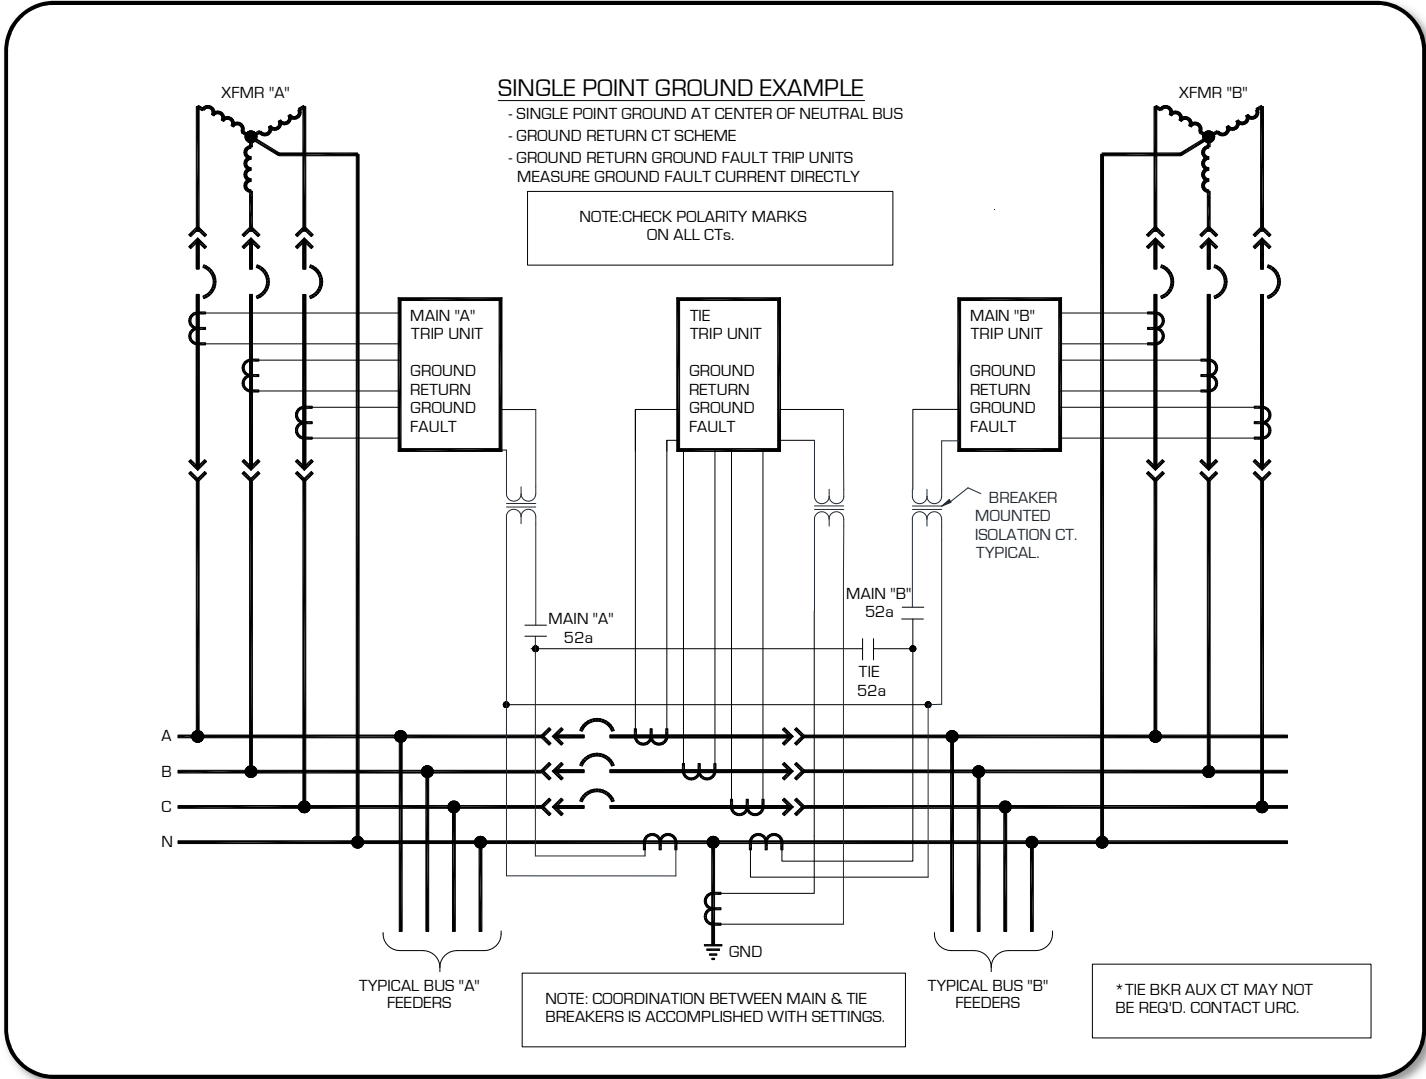

Figure 2: Single Point Ground Example
- **Figure 2: Single Point Ground**, with Ground Return Scheme
- Ground Return (GF Current is measured). See **Figure 2**.
- Applications with **Single Point Ground** that match **Figure 2** require **Ground Return (GR)** Ground Fault trip units for Mains & Ties.